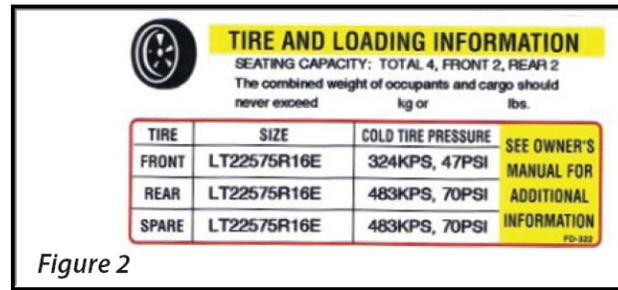

Figure 2
1. A “TIRE AND LOADING INFORMATION” label (See Figure 2) on the driver’s door jamb.